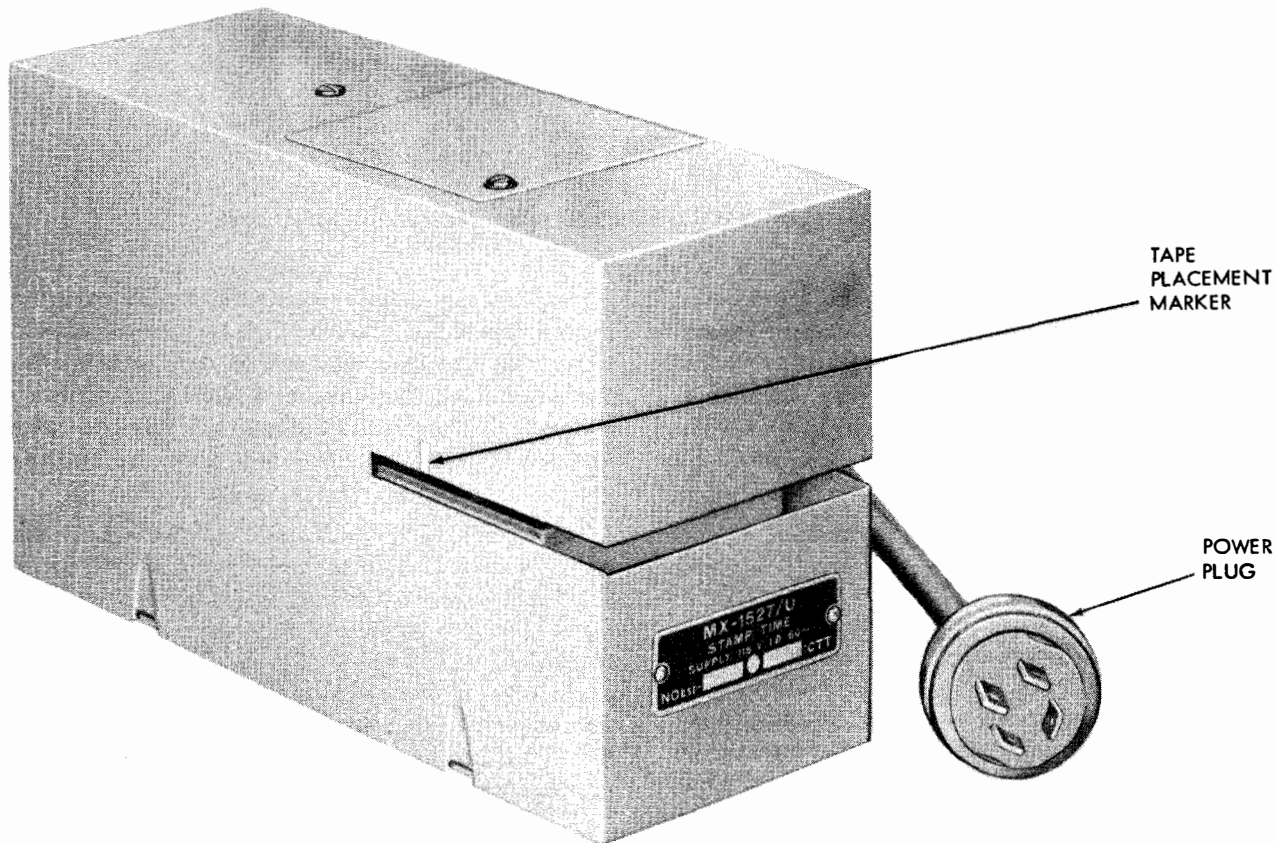

Figure 1-12. Time Stamp MX-1527/U, Oblique View
(1) GENERAL DESCRIPTION.—The Time Stamp MX-1527/U is a mechanism for printing the current date and time, at one minute intervals, on the perforated tape emerging from the typing reperforator (see figure 1-12). The printing is done automatically by a solenoid and a plunger controlled by a magnet that is not active unless a message is being transmitted. However, only the printing is stopped; the time clock will continue running, thus advancing the typewheels to stamp the next message with the current date and time.